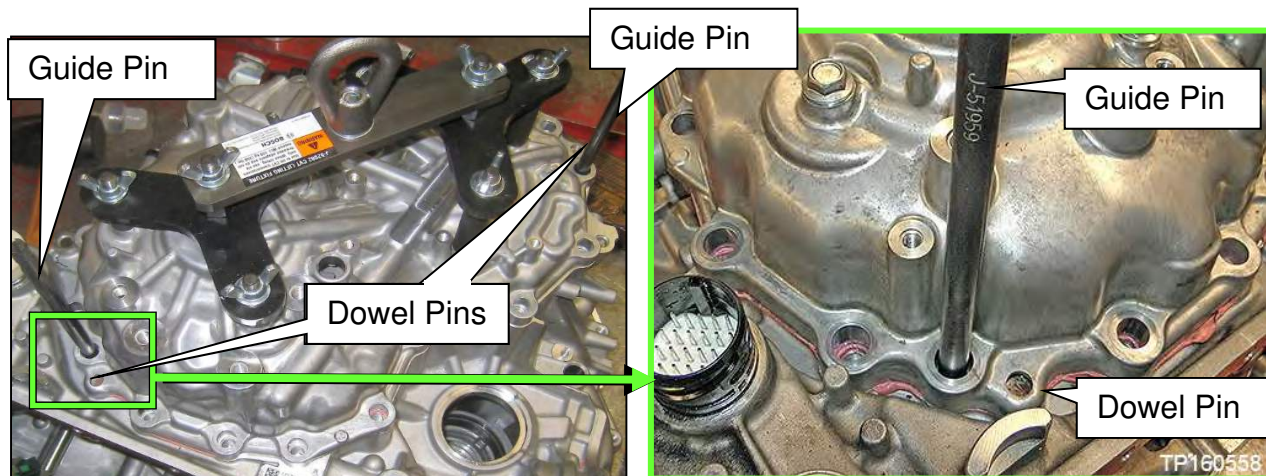

Figure 79
55. Install the two CVT Assembly Guide Pins (J-51959 - Guide Pins) as shown in Figure 79 and Figure 80.
HINT: Guide pin locations are shown in Figure 79 on page 36.